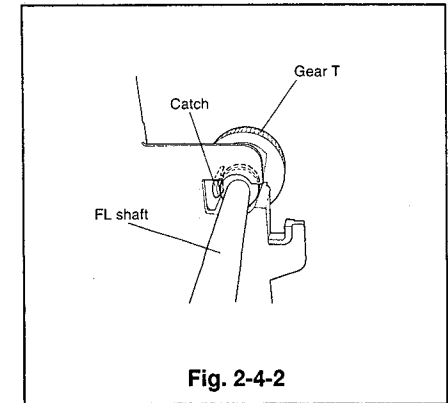

Fig. 2-4-2
- 2 Unfasten the catch holding gear T from the inside of the cassette housing and remove the FL shaft to which the gear S and T are attached. (Refer to Fig. 2-4-2)